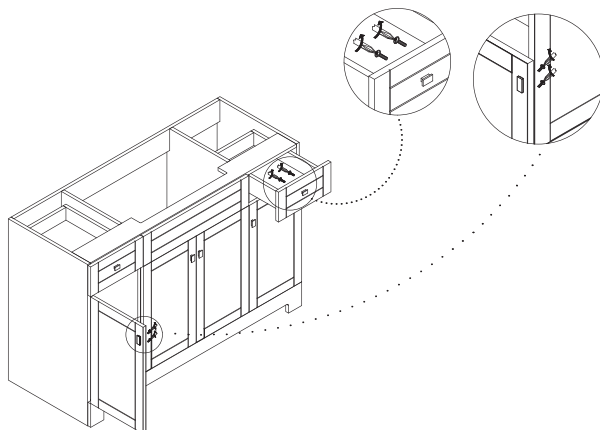

Figure 1
- 4: Attach the knobs for the doors by using the 1" screws, and the knobs for the drawers by using the 1-1/2" screws. Figure 1.